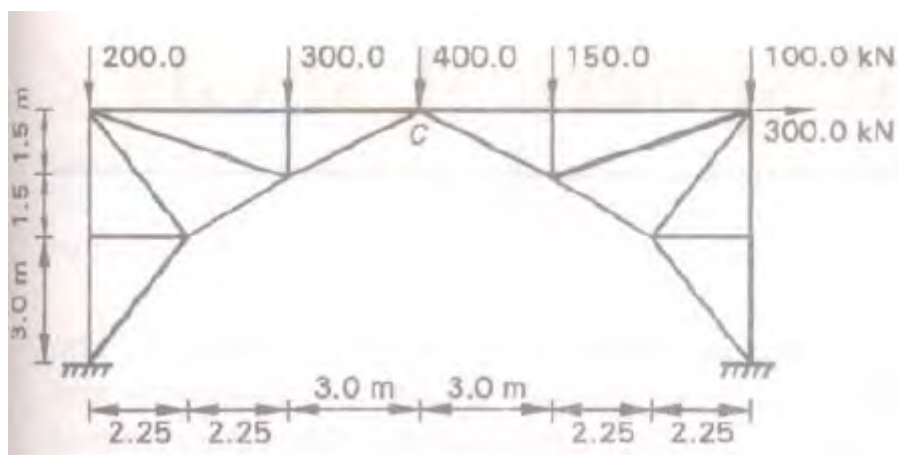

Figure 8
8. Analyze the truss indicated in the figure 8 by method of joints. [15]